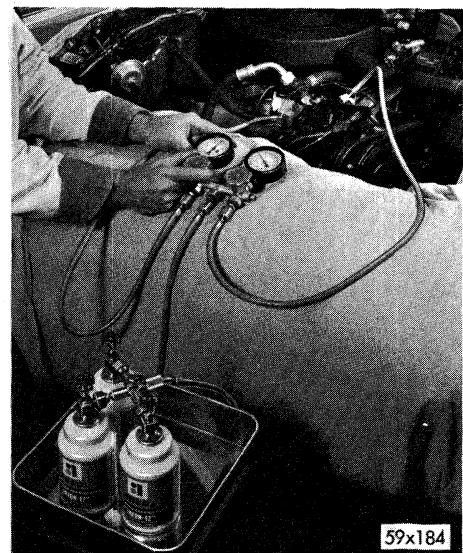

Fig. 143 — Servicing the Air Conditioning System
**NOTE: Individual refrigerant 12 containers have been developed and are available for servicing the air-conditioning unit and can be interconnected or used individually, as shown in Figure 143.**